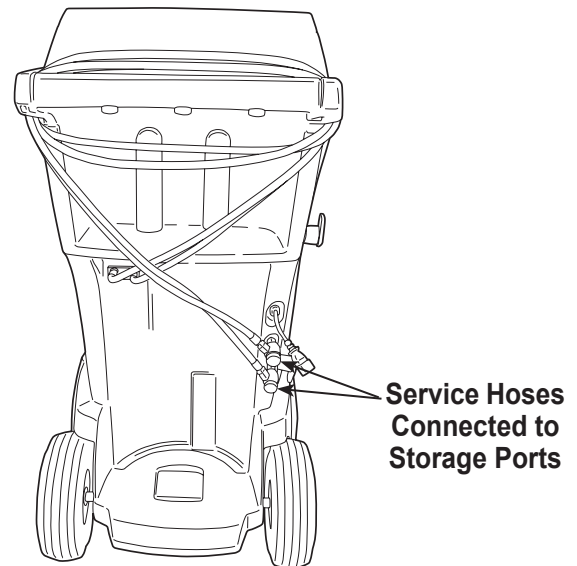

Figure 1
2. When prompted, connect the service hoses from the machine to their storage ports as shown in Figure 1 and turn coupler valves clockwise to open. Follow the prompts to continue.